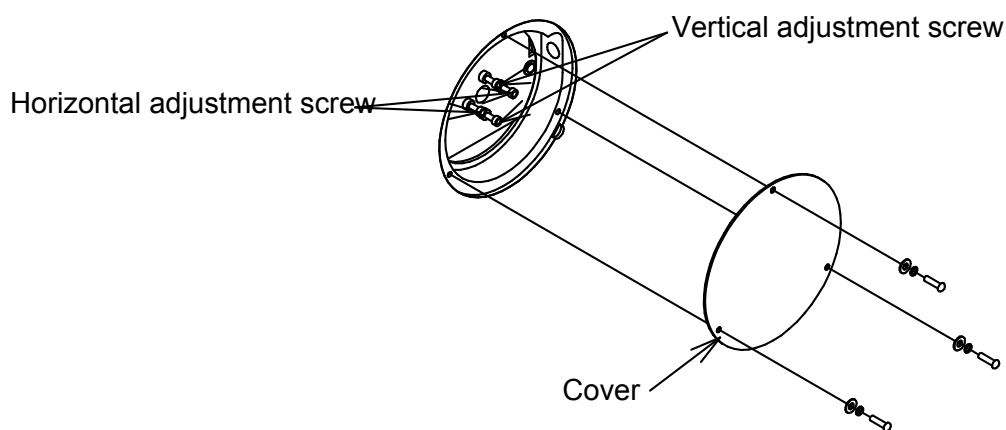

Figure. 4.4 Mirror adjustment screw
- (11) Remove the cover from the M₀ and M₁ mirrors. The adjustment screw shown in Fig. 4.4 will be visible.